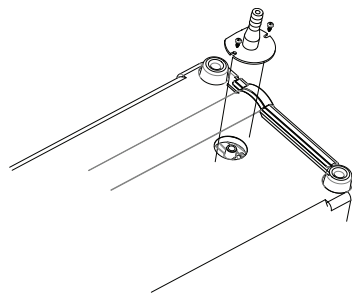

Figure 4.4
7. Push the drain pipe on to the drain connection of the tray, see *Figure 4.4*